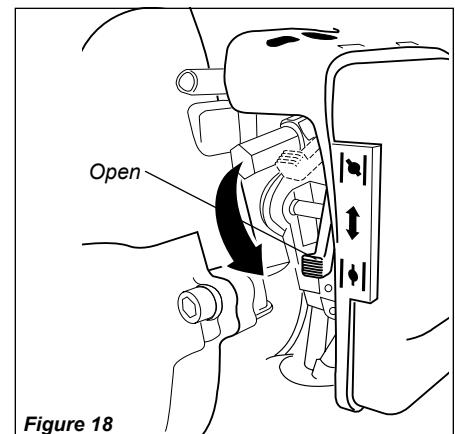

Figure 18
5. When the engine starts, slowly move the choke lever to the “OPEN” position. See Figure 18. (If the engine stops after the initial start, close the choke and restart.)